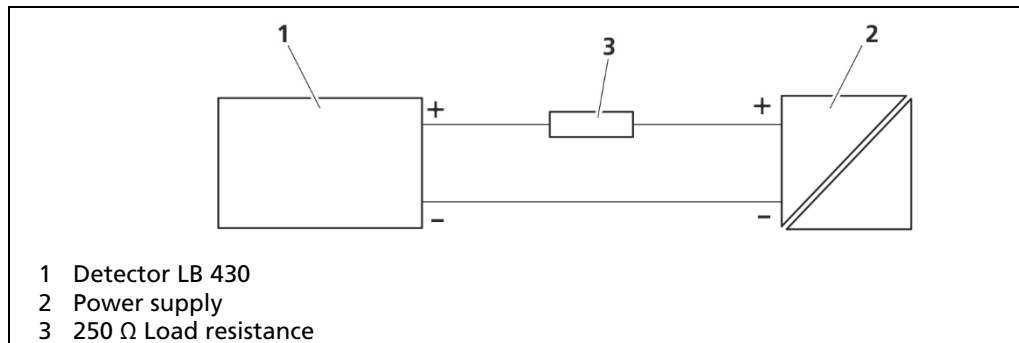

Fig. 12 Circuit diagram 4 ... 20 mA HART connection
2. Loosen the set screw (Fig. 12, Pos. 1) and remove the cover (Fig. 12, Pos. 2) by turning it with both hands.
1. Screw in the required cable glands (Fig. 12, Pos. 6) according to the manufacturer's specifications.
2. Open the locknuts of the cable glands and insert the cable (Fig. 12, Pos. 5).
3. Connect the cable to the terminals in the connection area. Refer to the connection diagram (Fig. 12, Pos. 4), which is located inside the cover.
5. Unused entries must be sealed with the corresponding blind plugs (Fig. 12, Pos. 7). A tightening torque of 20 Nm is recommended.
6. Connect the detector to a local potential equalization (Fig. 12, Pos. 8).
7. Ensure that the O-ring (Fig. 12, Pos. 3) is properly seated around the entire circumference on the front face of the detector base.
8. Attach the cover (Fig. 12, Pos. 2). Turn the cover until it is securely seated on the detector housing.
9. Tighten the set screw (Fig. 12, Pos. 1).